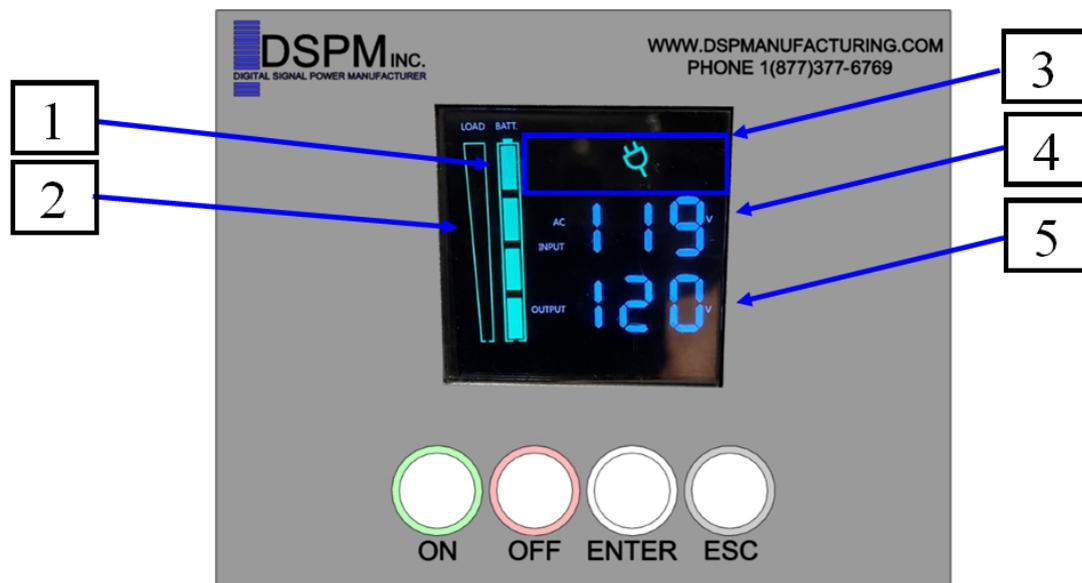

Figure 11
8.1.3.2. The Processor perform a series of checks (These checks will be indicated by the display panels (see CH.7 Figure 11).